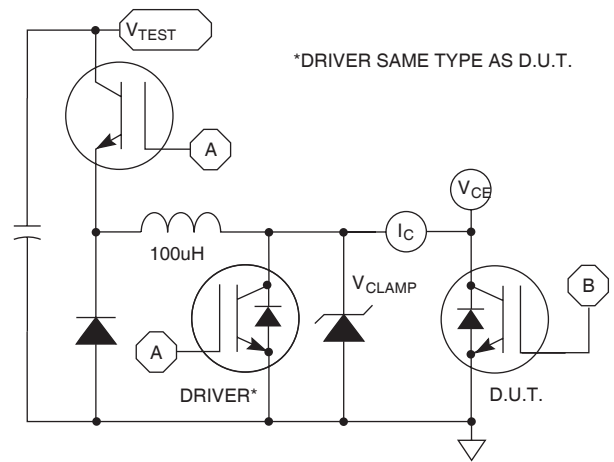

Figure 24,  $E_{ON1}$  Test Circuit
① Repetitive Rating: Pulse width limited by maximum junction temperature.
② For Combi devices,  $I_{ces}$  includes both IGBT and FRED leakages
③ See MIL-STD-750 Method 3471.
④  $E_{on1}$  is the clamped inductive turn-on-energy of the IGBT only, without the effect of a commutating diode reverse recovery current adding to the IGBT turn-on loss. (See Figure 24.)